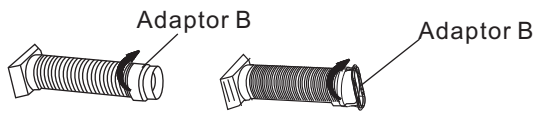

Fig.16
1. Install the window Exhaust adaptor B (flat mouth) onto the exhaust hose as shown in Fig.16. Refer to the previous pages for window kit installation.